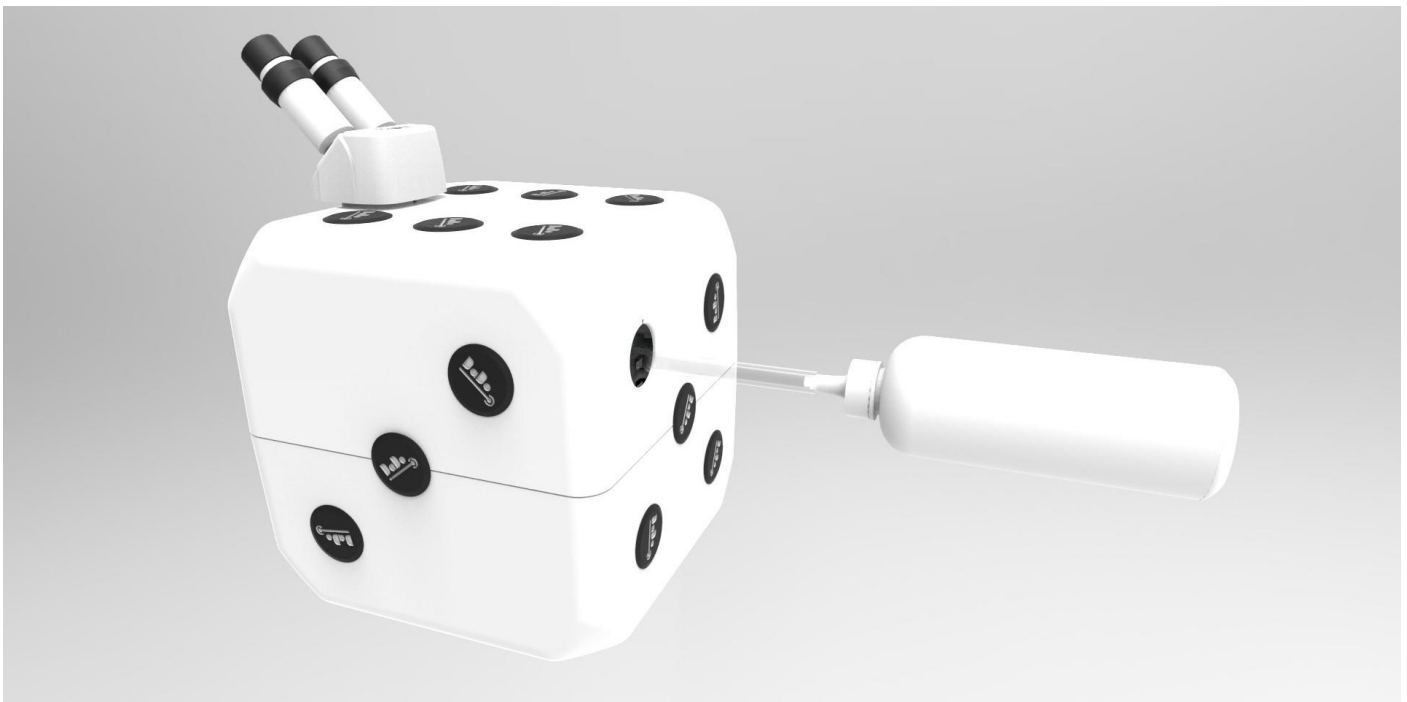

Figure 16 - Adding coolant
- Remove the cap on the top left from the back of the machine as shown in figure 16.